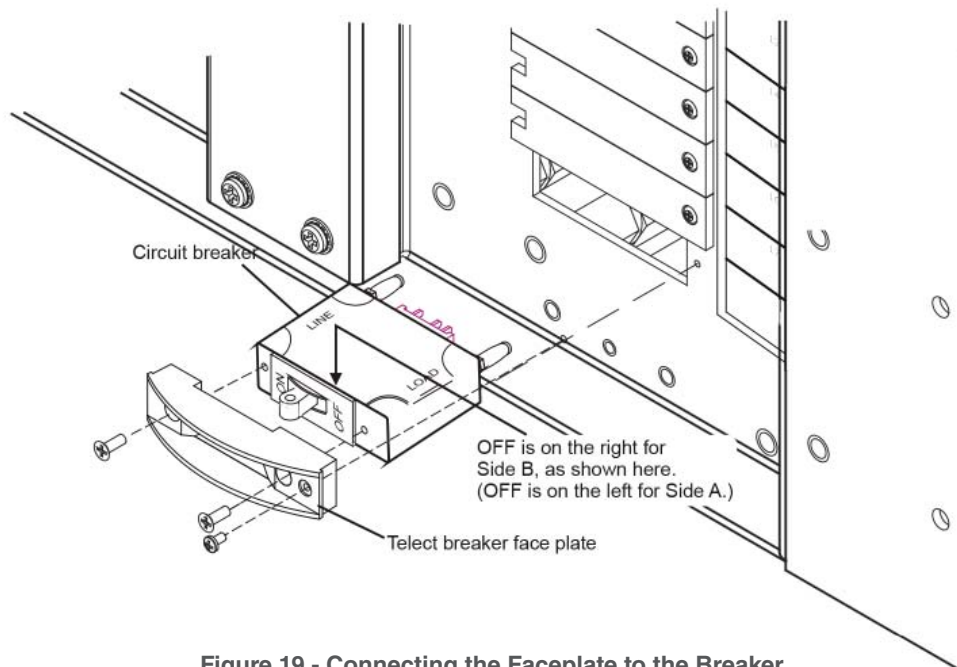

Figure 19 - Connecting the Faceplate to the Breaker
2. Before installing a breaker, screw the faceplate to the breaker as shown in Figure 19.
NOTE: Breakers are installed in the panel so that the OFF position is toward the outboard side of the panel. In other words, install breakers so that the LOAD side is toward the outside edge of the panel; that is, LOAD should be on the right on Side B, as shown in Figure 19, and on the left on Side A.